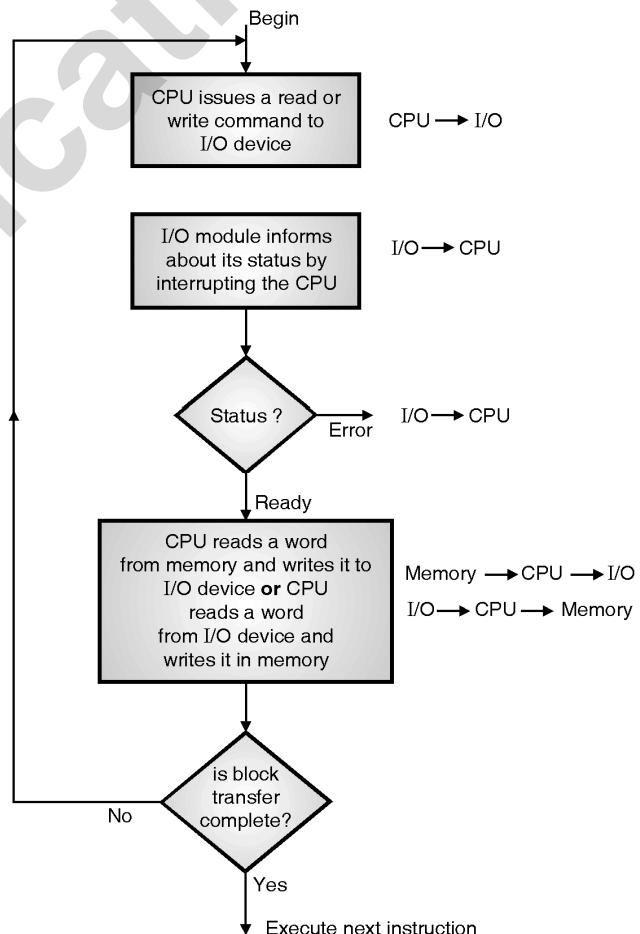

Fig. 11.13.2 : Transferring a block of data using interrupt driven Input/output
- The interrupt driven Input/output mechanism for transferring a block of data is shown in Fig. 11.13.2.